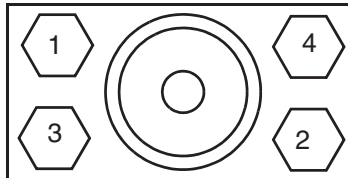

Figure 45. Connector Bolt Torquing Sequence
6. Tighten all connector bolts in steps of 1.4 N•m (1 lb•ft) up to 2.8 N•m (2 lb•ft) per the sequence shown in Figure 45.